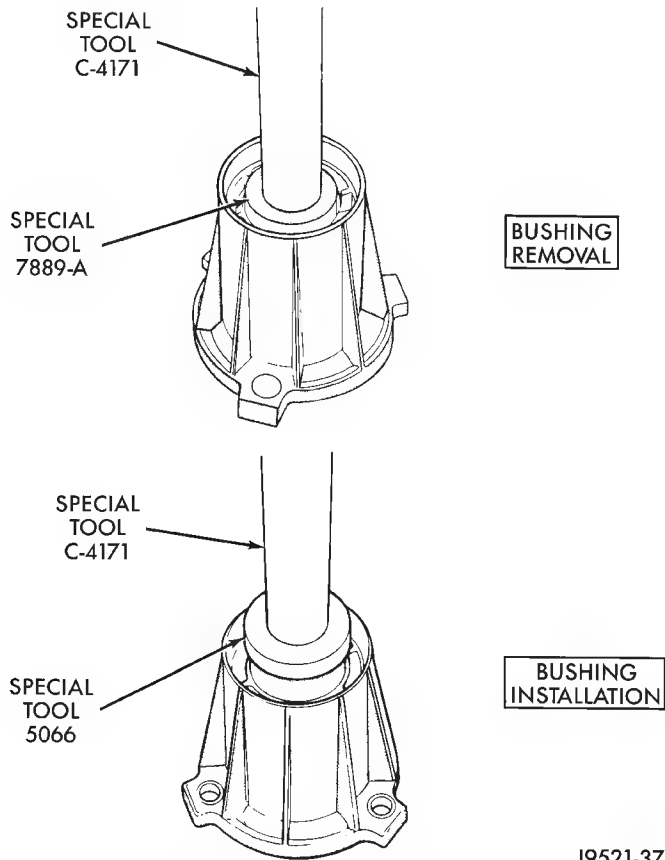

Fig. 77 Extension Housing Bushing Replacement
(69) Replace extension housing bushing (Fig. 77).